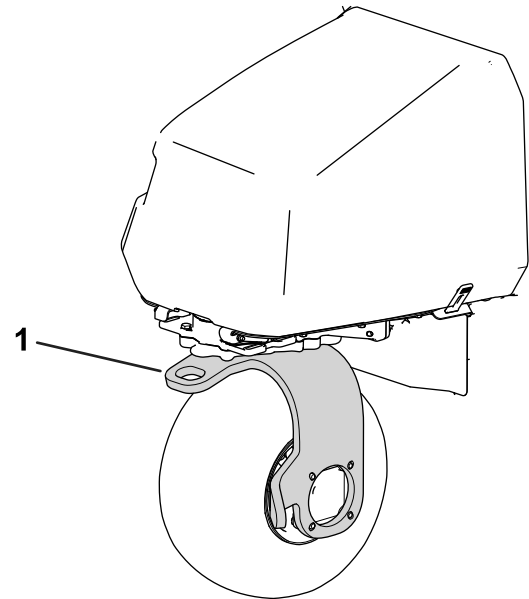

Figure 39
11. Use the rear castor fork to tow the machine (Figure 39).